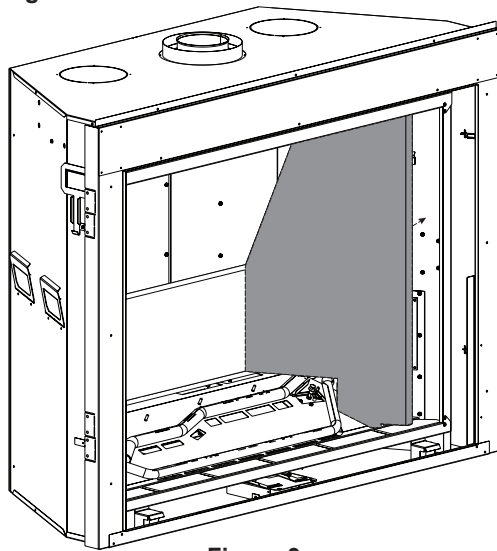

Figure 3
2. Place LINER SIDE - RIGHT against right firebox wall and LINER REAR - BOTTOM and push back to hold into place. **See Figure 3.**